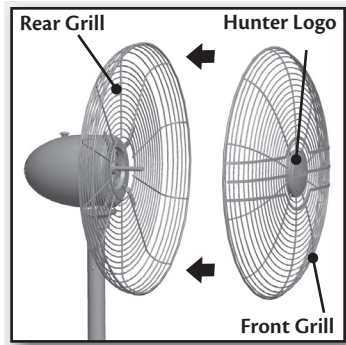

Figure 16
- Place the front grill against the rear grill so that the Hunter logo faces right side up and push together until the tabs on the grills hold them together. Figure 16.